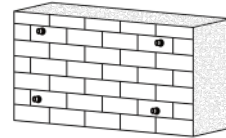

Fig. 2.3
3. Drill mounting holes with an electric drill and insert the expansion rubber plug into the wall (Fig 2.3).